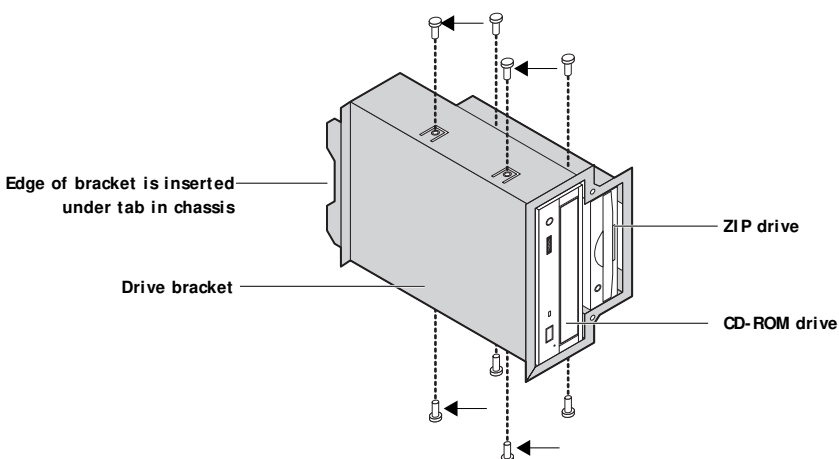

FIGURE 4-33 Removing the CD-ROM drive
2. Attach the four screws that secure the CD-ROM drive to the bracket (see Figure 4-33).